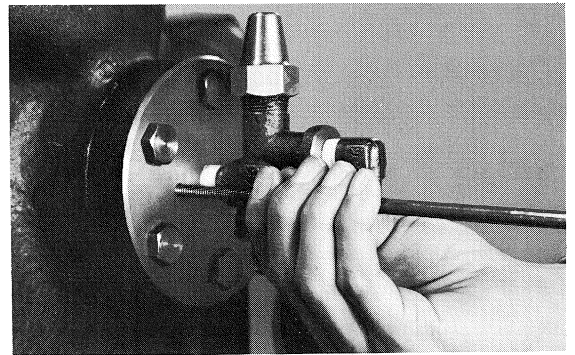

Fig. 71 Pushing unloader piston with eye-bolt
- b) For the cylinder with the unloader mechanism, remove the cap bolt on the unloader cover, screw in an eyebolt, and put the bank in the loaded position. Lower the lift pins by pushing the unloader piston with the eyebolt screwed in as shown in Fig. 71. Neglecting this step will result in damage to the suction valve or problems such as gas leakage after assembly.